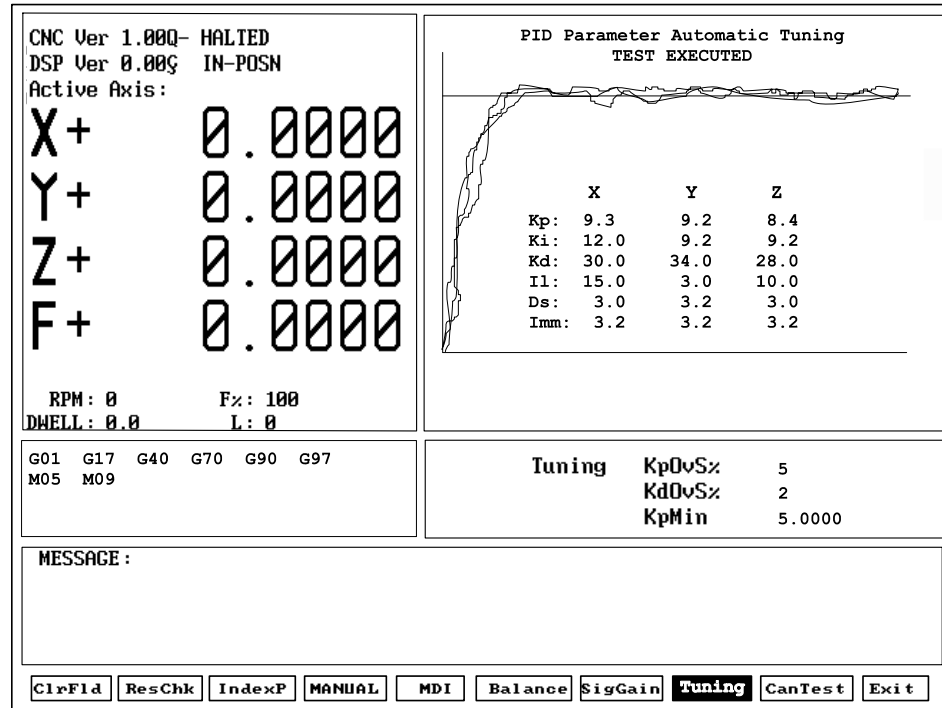

Figure 11, Tuning Parameters Test Results Screen
6. Refer to **Figure 11**. After the test, the CNC plots the final step response for all axes tested, and displays them in the graphics area of the screen.
1. Refer to **Figure 11**. After the Tuning Test, the results are displayed in the Graphics Area of the screen. Press **TUNING (F8)** and highlight **Save Results**.